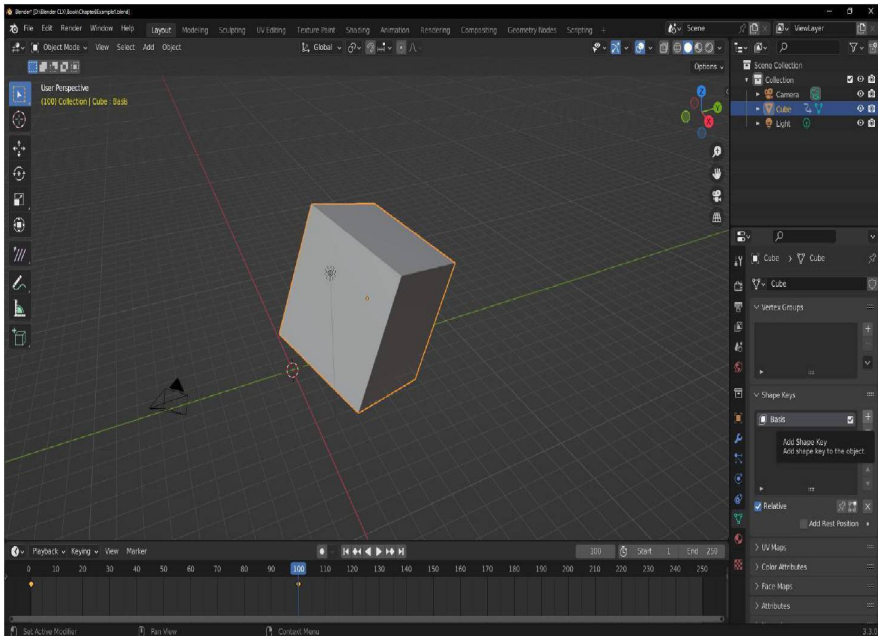

Figure 8.6: Adding a Basis Shape Key via the Object Data Properties tab of the Properties panel
1. First, we'll navigate to the **Object Data Properties** tab of the **Properties** panel, and in the **Shape Keys** section, press the plus sign to the right of the empty area which will add a **Basis key** as shown in *Figure 8.6*.